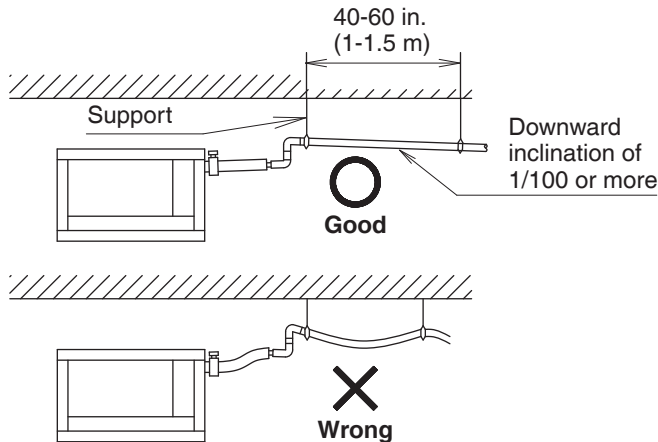

Fig. 13
- Install the drain piping as short as possible with downward inclination of 1/100 or more and without such that air may not stagnate. **(Refer to Fig. 13)** (It may cause abnormal sound such as bubbling noise.)
- Install supports at a distance of 40-60 in. (1 to 1.5 m) so that the piping may not deflect. **(Refer to Fig. 13)**
- Make sure to use the attached drain hose (2) and the metal clamp (1).